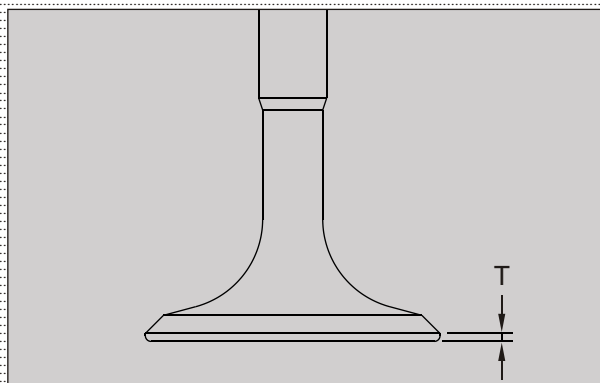

Fig. 3.143
- Measure thickness of valve head. If thickness is less than the service limit, replace the valve with a new one. (Fig. 3.143)